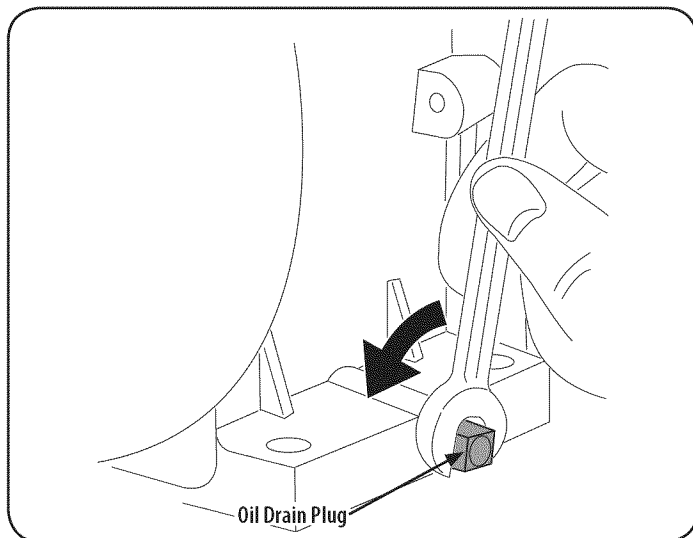

Figure 17
4. Remove the oil drain plug, See Figure 17.